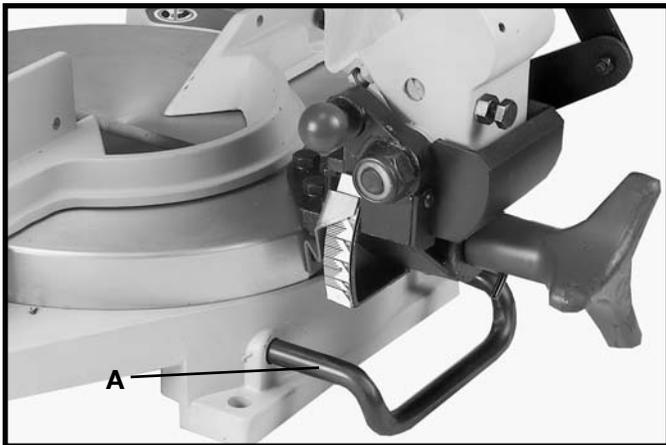

Fig. 19
A rear support bar (A) Fig. 19, is provided to prevent the miter saw from tipping to the rear when the cuttinghead is returned to the up position after a cut has been made. For maximum support the bar (A) should be pulled out as far as possible.